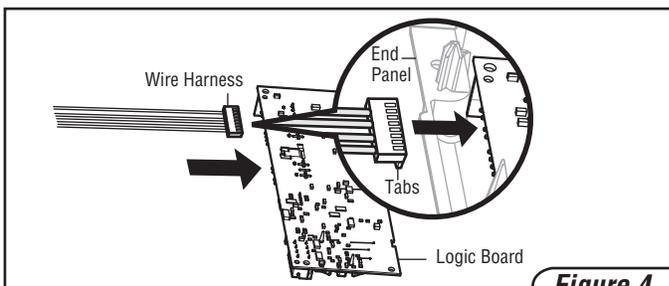

Figure 4
11. Reverse steps 4 through 10 to reassemble. When reconnecting the wire harness, be sure the tabs on the wire harness are facing the end panel, not the logic board (Figure 4).